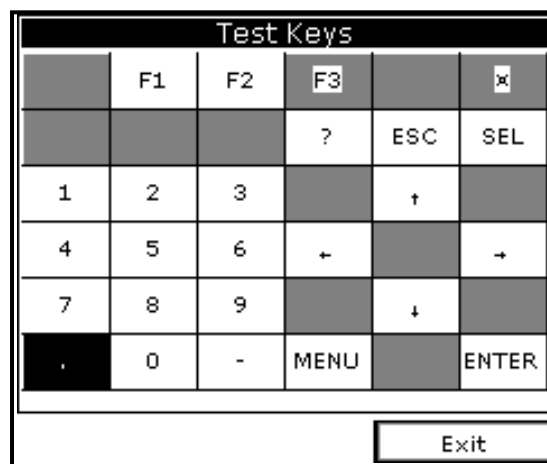

Figure 63: Test Keys Window
4. Use the arrow keys to scroll to Test Keys and press **[ENTER]**. The screen appears similar to *Figure 63*.